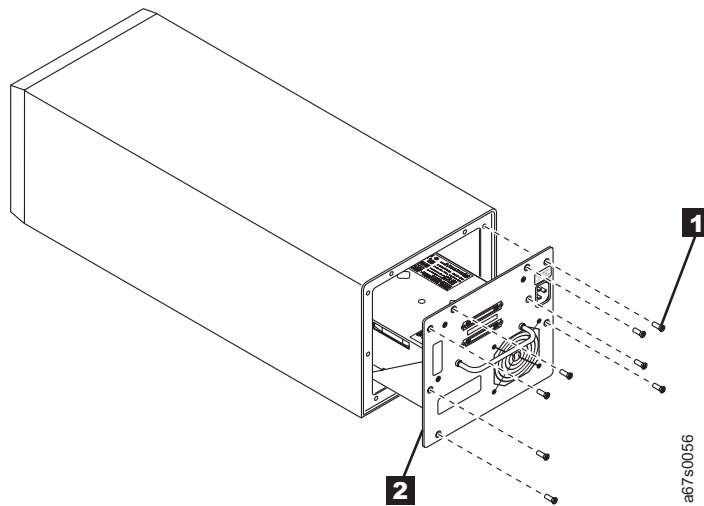

Figure 33. Removing the drive assembly sled from the 3581 Tape Autoloader
4. Remove the eight screws (**1** in Figure 33) that secure the drive assembly sled (**2**) to the autoloader.